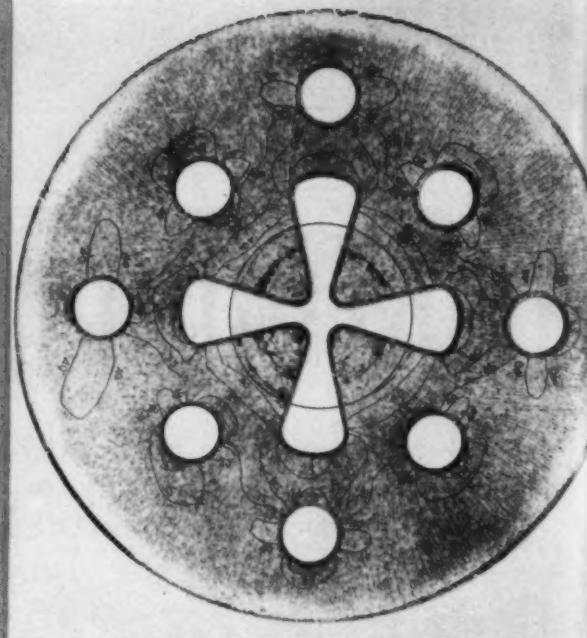

Fig. 5—Brittle coating photograph of a Catalin perforated rotating disk. The last isoentatic was obtained at 4000 rpm
**Brittle Coating Test:** The geometry of the second perforated disk is shown in Fig. 5. The model was made of Catalin, and Stresscoat was used to determine the isostatics and the larger principal stress. The calibration disk and the specimen were rotated side by side to a certain speed and stopped for inspection of cracks. They were then rotated at a higher speed and stopped again for inspection of cracks. The crack pattern and the isoentatics (loci of cracks ends) of the calibration disk and the specimen are shown in Figs. 6 and 7. Through the known stress distribution in the calibration disk, the strain sensitivity of the particular coating used is computed. The larger principal stress along a radius passing through the tip is computed from the location of the isoentatics and plotted in Fig. 8. The tangential stresses in the specimen used in the Stresscoat test are considerably lower than those in the specimen used in the photoelastic test because of relief due to the presence of four additional holes. The photographs shown in Figs. 6 and 7 were taken by using transmitted light through the specimen and holding the photographic film against the coating.